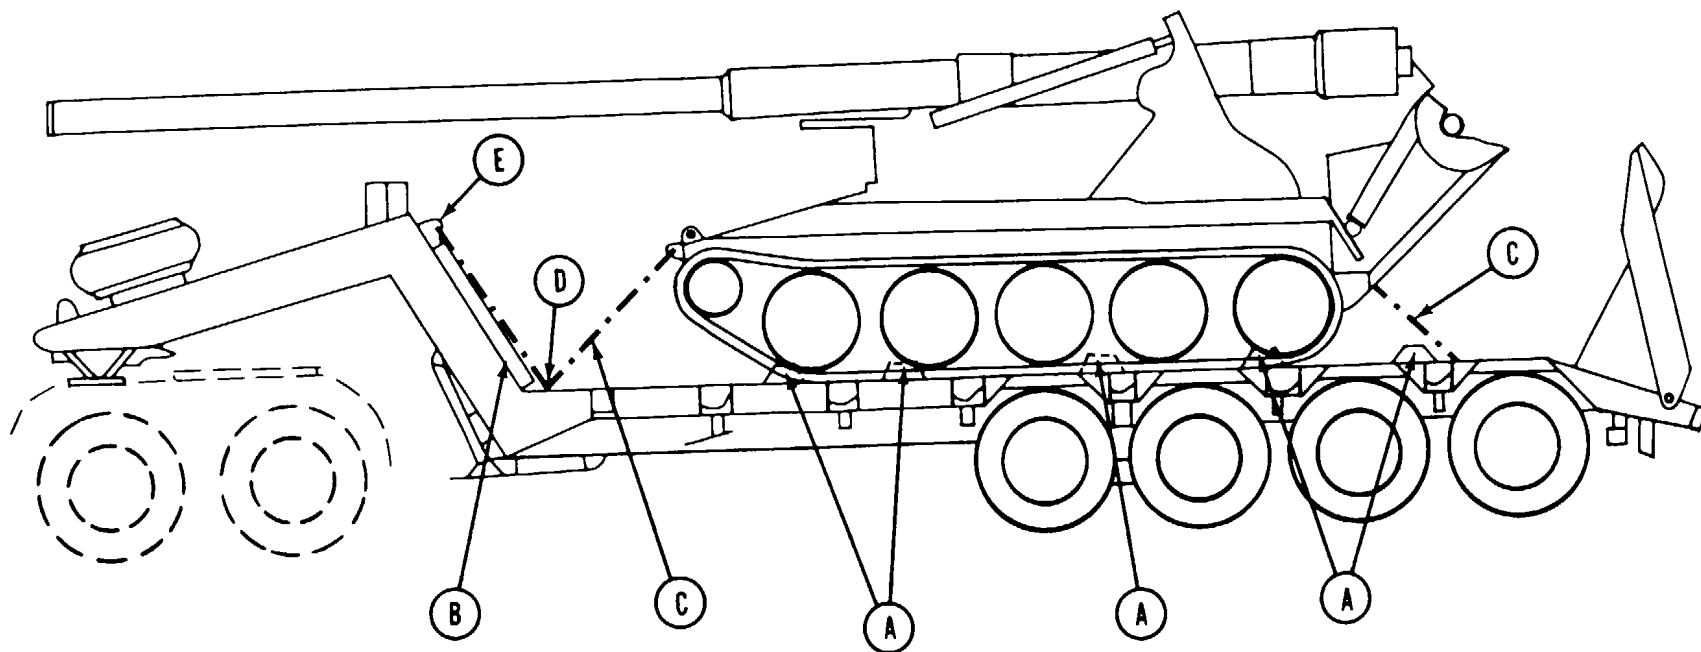

Figure 5-1. Blocking and tiedown diagram of typical gun, M107, on semitrailer, M747.
a. General. For purposes of illustration the gun, M107, is shown as a typical load on the semitrailer, M747 (fig 5-1).
tracks when gun or howitzer is aboard trailer (item A, fig. 5-1).
(2) Drive or winch gun or howitzer onto the trailer bed. The M107 and M110E2 should be positioned as shown in figure 5-1 so that the muzzle end of the barrel does not protrude beyond the front end of the trailer in a manner that would interfere with the towing tractor. The M110 should be placed to the farthest forward position against the wood bumpers (item B, fig 5-1). TM 9-2830-294-14 contains detailed instructions for winching operations.
(3) Place and wire-tie transmission in neutral position. Set parking brakes.
(1) Figure 5-1 provides a tiedown diagram that is compatible with standard loading practices and will adequately restrain the load against forces encountered at normal speeds and operating conditions.
(2) Attach chain (item C, fig 5-1) to left front towing shackle and pass through winch roller (item D, fig 5-1). Attach load binder to tiedown shackle on trailer goose neck (item E, fig 5-1). Attach chain to load binder and tighten. Repeat on right side. Attach chain to left rear towing shackle. Attach load binder to rearmost tiedown fitting on right side of trailer. Attach chain to load binder and tighten. Repeat on other side.